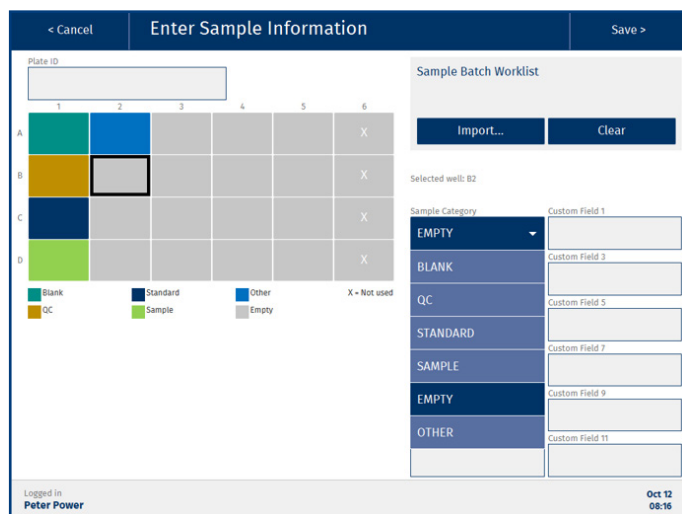

Figure 33. The Enter Sample Information view. Wells/columns that are not enabled in the extraction media are disabled and marked with an X (see A6-D6).
Power and routine users can enter custom information for the individual samples in the **Enter Sample Information** view (see Figure 33) during the setup of a run. There are two ways to do this, manually or by importing a sample batch worklist.
- a. Select a position in the sample plate/rack by pressing it; see Figure 33. Wells/columns that are not enabled in the extraction plate/rack are disabled and marked with an X.
- b. Select the sample category from the drop-down list; see Figure 33. Each category has its own color; see the color legend below the plate/rack.
3. Enter the sample plate/rack ID in the **Plate ID** text box in the **Enter Sample Information** view; see Figure 33.